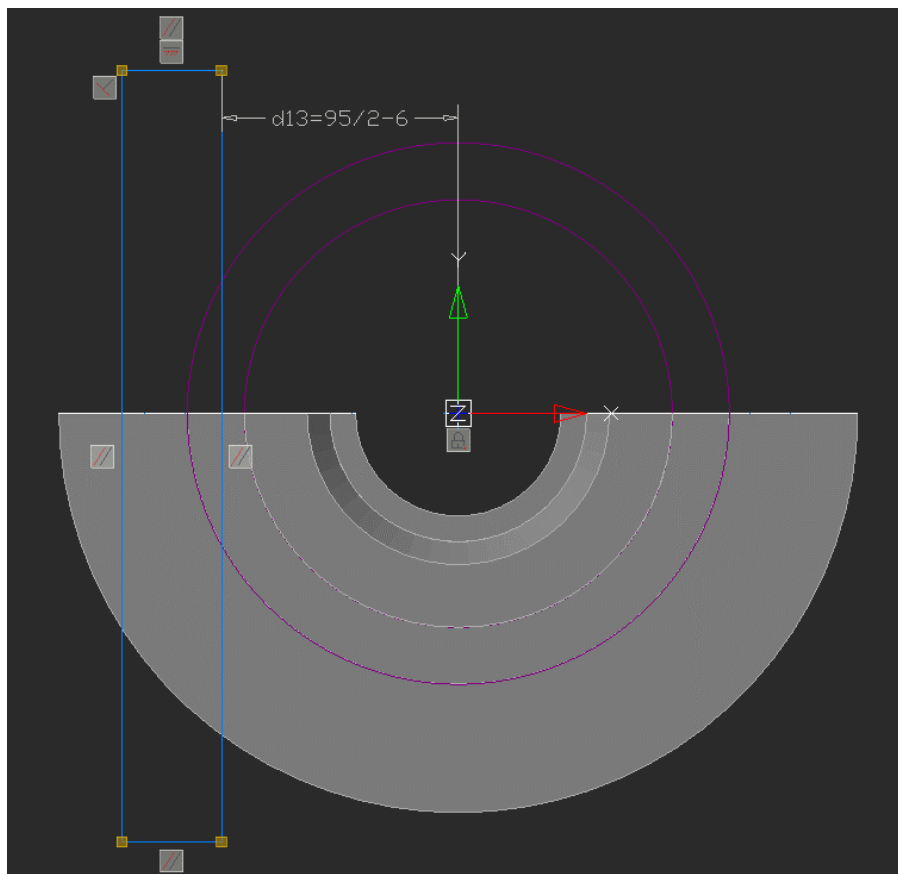

Fig. 23. The sketch of the second flat
7.3. Draw a second flat on the opposite side. Use the end face of the $\varnothing 95$ diameter step as a reference plane for the sketch. The length of the rectangle for the sketch must be at least $2/3$ of the step diameter (Fig. 23).